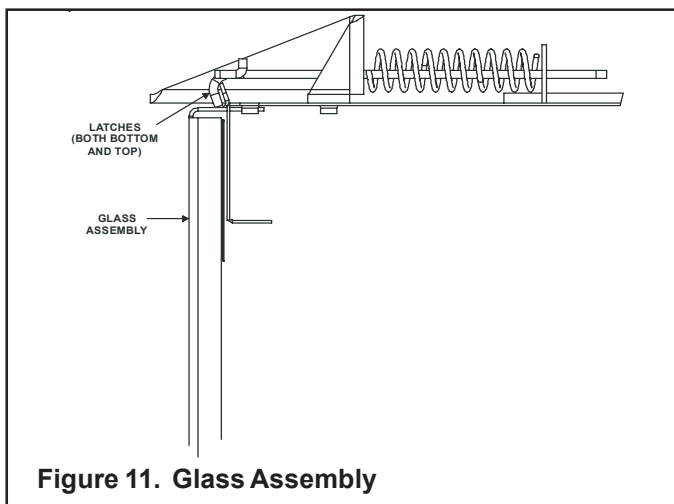

Figure 11. Glass Assembly
- Pull the four glass latches out of the tabs on the glass frame. Remove glass door from the unit (see Figure 11).